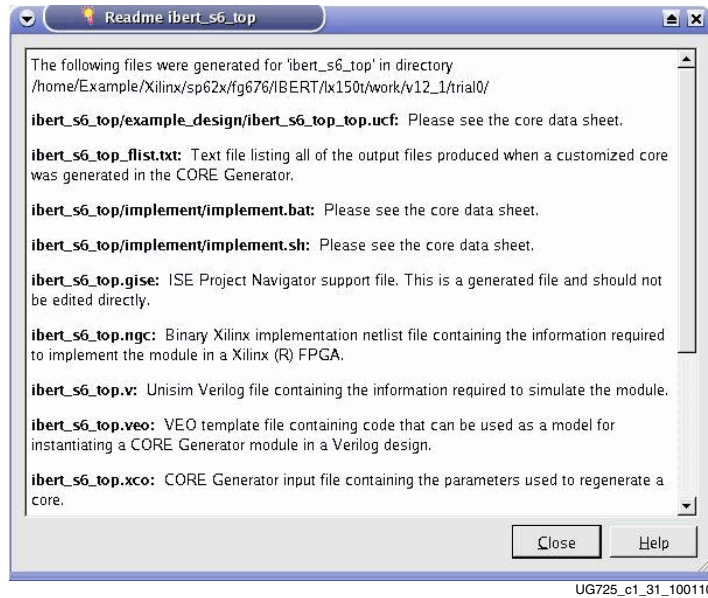

Figure 1-30: IBERT Core Readme
16. A readme window for the **ibert\_s6\_top** core opens after core generation completes (Figure 1-30). Review the list of files created and click **Close** when finished.